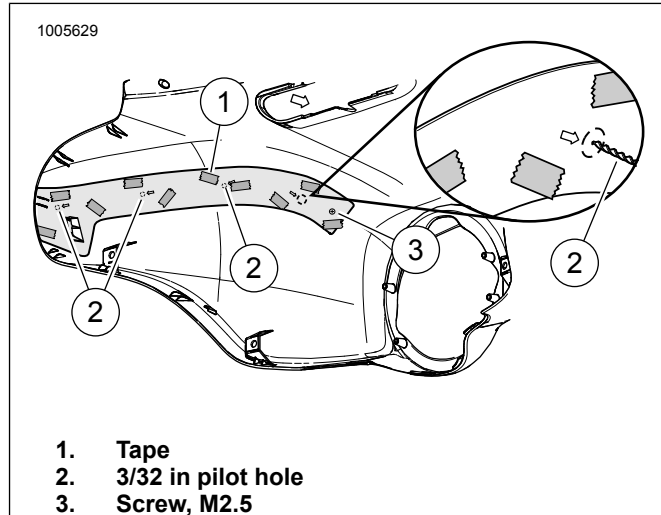

Figure 3. Drill Pilot Holes
See Figure 3. Place tape (1) over each square hole. Install tape from pin and work your way up the fairing. This will help hold the Mylar template in place.
6. Drill four additional 3/32 in pilot holes (2).